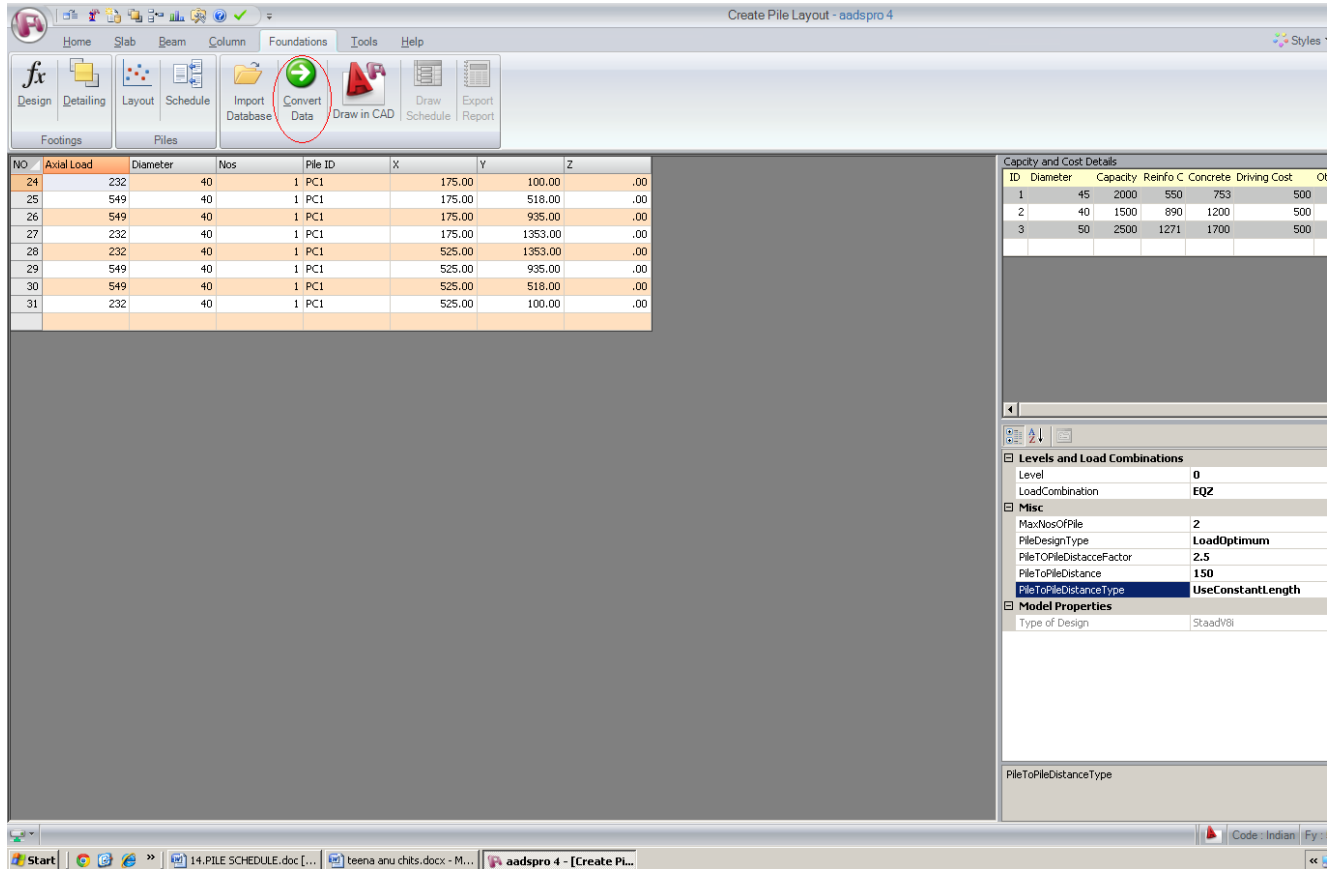

Fig 5.1.5
- Click on the Convert Data from tool bar (fig 5.1.5)